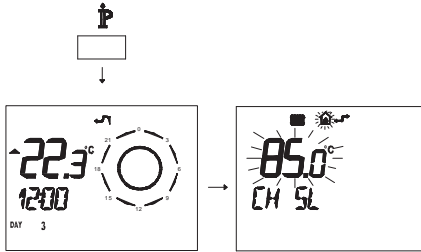

Fig. 7.27
- Press button **IP** for more than 3 seconds to enter in **INFO** mode (Fig. 7.27).